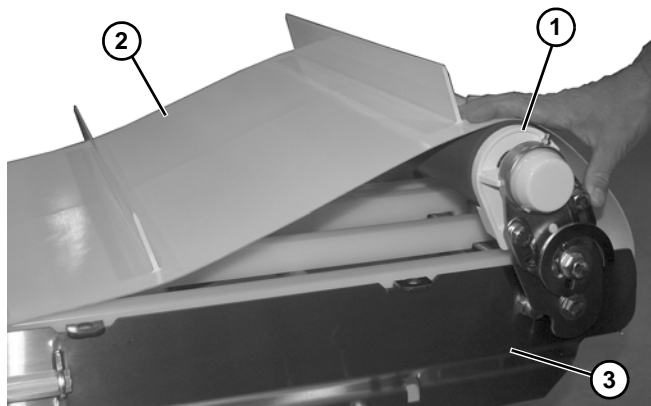

Figure 28
3. Rotate idler end (**Figure 28, item 1**) upward as shown.
4. Position the belt (**Figure 28, item 2**) onto the conveyor (**Figure 28, item 3**).